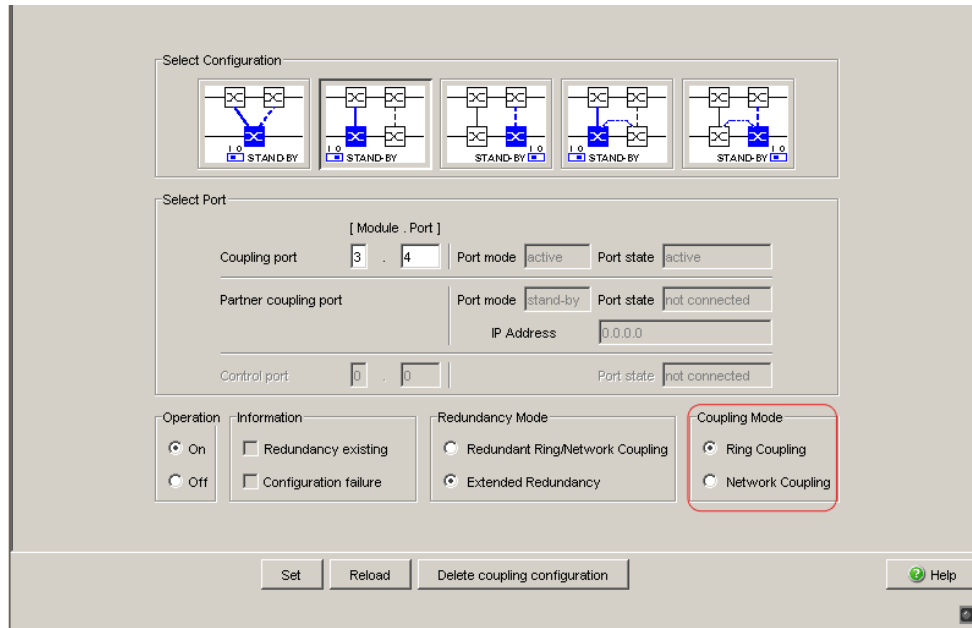

Figure 20: Selecting the coupling mode
- ☐ In the “Coupling Mode” frame, select (see fig. 20)